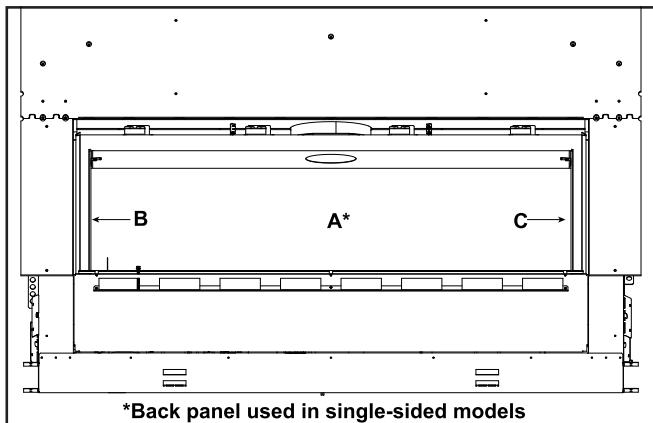

Figure 11.4 Placement of Glass Panels
- a. Set back glass panel, labeled A in Figure 11.4, into firebox with the smooth side of the glass facing outward. Insert retaining bracket through the slot in the inner firebox heat shield. Line up the existing hole in the heat shield with the hole closest to the bend in the bracket and secure in place with a screw.
- d. Install the left side panel, labeled "B" in Figure 11.4, by sliding it into place from the front. While installing, press the panel firmly against the firebox side.
- a. Set left side glass panel, labeled B in Figure 11.4, into firebox with the smooth side facing outward.